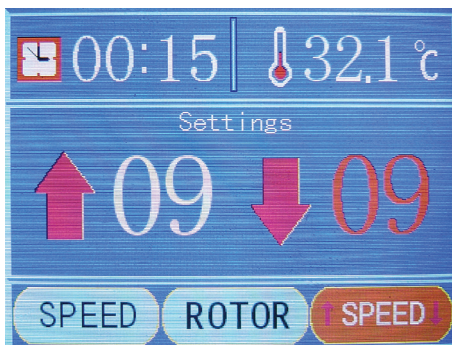

Figure 10 – Deceleration setup
- 7.6.8. Press the “ DOWN” button to adjust the deceleration of the rotating speed, or touch the screen and click the icon to do the same operation (**Figure 10**). There are 10 deceleration levels: 0 is the slowest while 9 is the fastest.